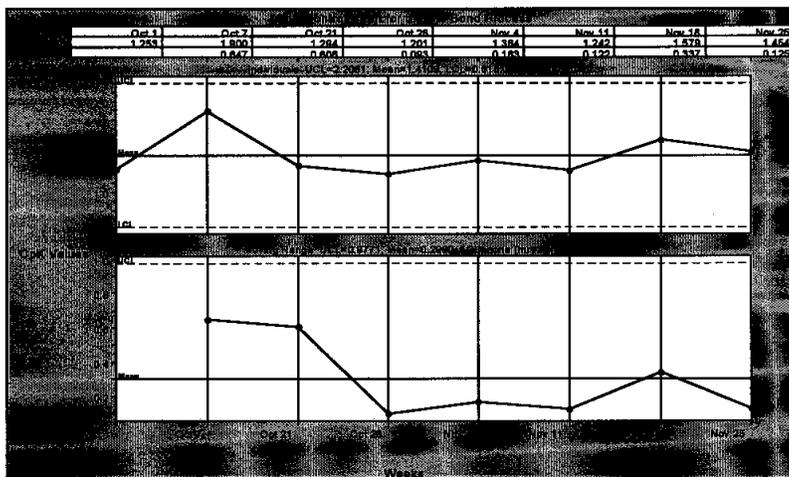

Figure 2
Step 4: Plot each weeks Cpk numbers on an Individuals Control chart (also known as a XmR chart). The X axis represents time (weeks) while the Y axis represents Cpk values (Figure 2).
Step 5: Calculate control limits and averages lines for both the X chart and the mR chart. Wait until you have collected about 8-10 weeks worth of data before setting limits. (Figure 2).